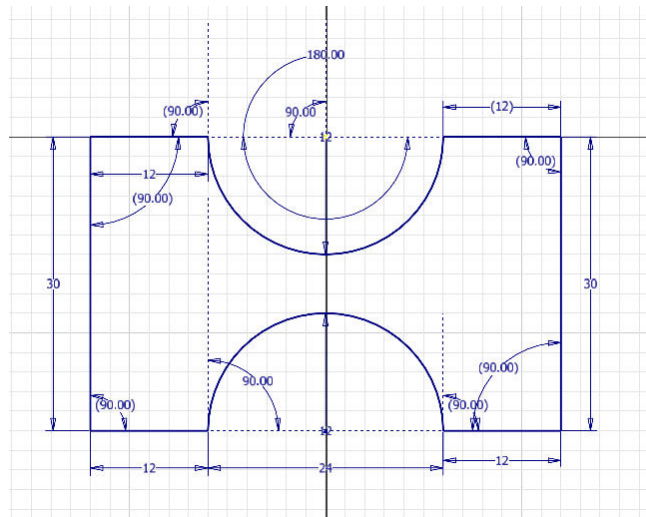

Figure 2-95 Final sketch for Tutorial 2
17. Exit the **Line** tool. The final sketch for Tutorial 2 is shown in Figure 2-95.